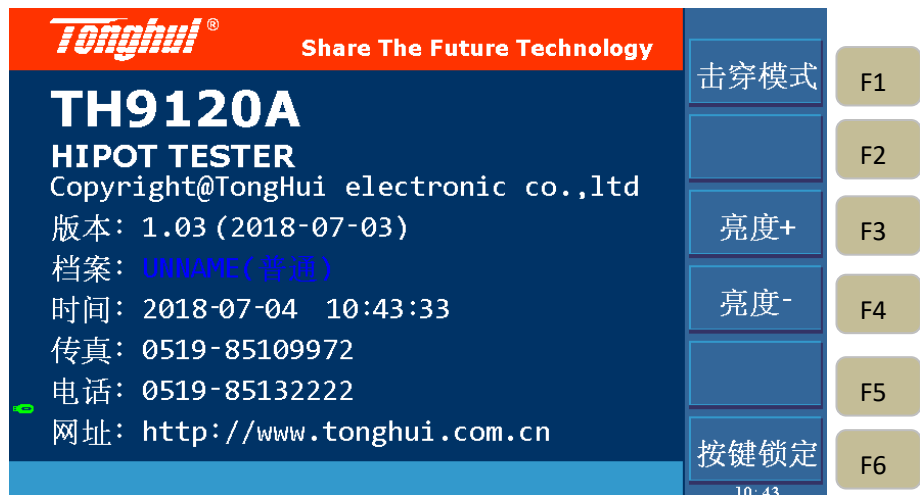

Figure 4-20
5. 1. On the non-TEST page, ie. SYSTEM or SETUP interface, press **【STOP】** to enter the interface shown in Figure 4-20